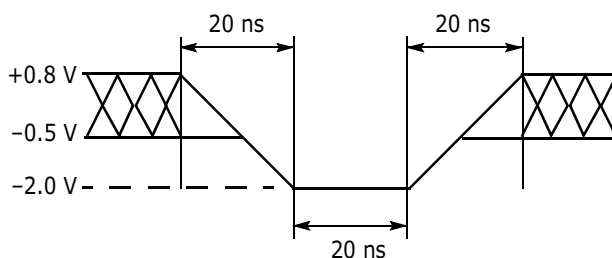
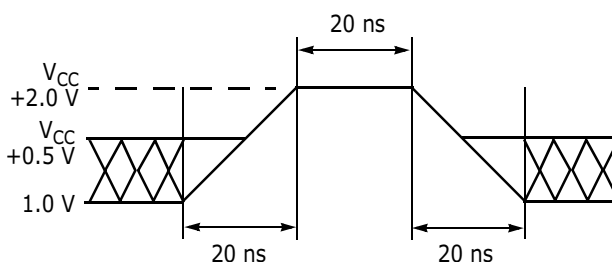

Figure 8. Maximum Negative Overshoot Waveform
Figure 9. Maximum Positive Overshoot Waveform
1. Minimum DC voltage on input or I/Os is –0.5 V. During voltage transitions, inputs or I/Os may undershoot V_{SS} to –2.0 V for periods of up to 20 ns. See Figure 8. Maximum DC voltage on input or I/Os is $V_{CC} + 0.5$ V. During voltage transitions outputs may overshoot to $V_{CC} + 2.0$ V for periods up to 20 ns. See Figure 9.